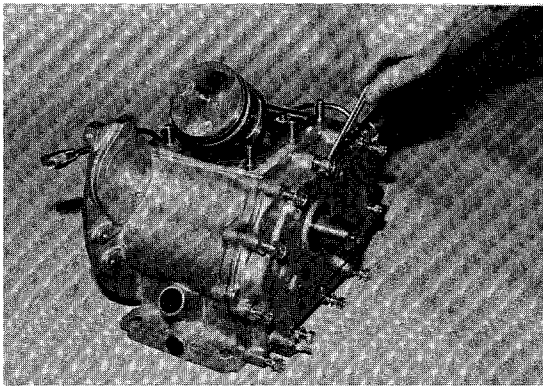

Figure 6-29
1. Remove all retaining bolts from case (**Figure 6-29**).